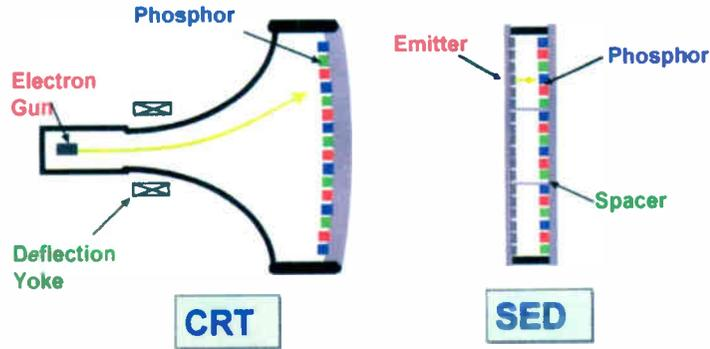
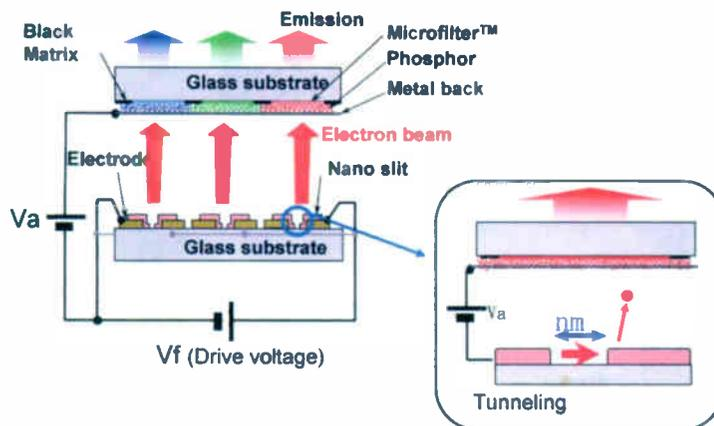

Fig. 1: Comparison between a CRT and an SED. Both rely on electrons striking a phosphor-coated screen to produce light.
Fig. 2: How the SED electron emitters operate.
Fig. 1 compares a CRT and an SED. Fig. 2 shows how the electron emitters are activated by applying a drive voltage to an SED cell. The electron emitters are arranged to correspond with display pixels. Canon and Toshiba say that in addition to high brightness and definition, the SED provides a fast video-response performance, high contrast, high gradation levels and low power consumption.
A simplified equivalent circuit of an electrolytic capacitor, see Fig. 1, is usually shown when providing a brief explanation of what ESR is all about. In addition to the ideal capacitor  $X_c$ , a second component is present. It has a significant effect on the capacitor's performance, and is referred to as the equivalent series resistance (ESR). Electrolytic capacitors are used mainly for decoupling and, to a lesser extent, for signal coupling. This being so it's important that, for optimum performance, the impedance (AC resistance) of the capacitor is as low as possible.
**Fig. 1: Simplified equivalent circuit of an electrolytic capacitor.  $X_c$  represents an ideal capacitor. Its reactance moves towards zero ohms as the frequency increases.  $X_c = 1/(2\pi fc)$ . The value of the equivalent series resistance ESR is determined mainly by the condition of the electrolyte.**